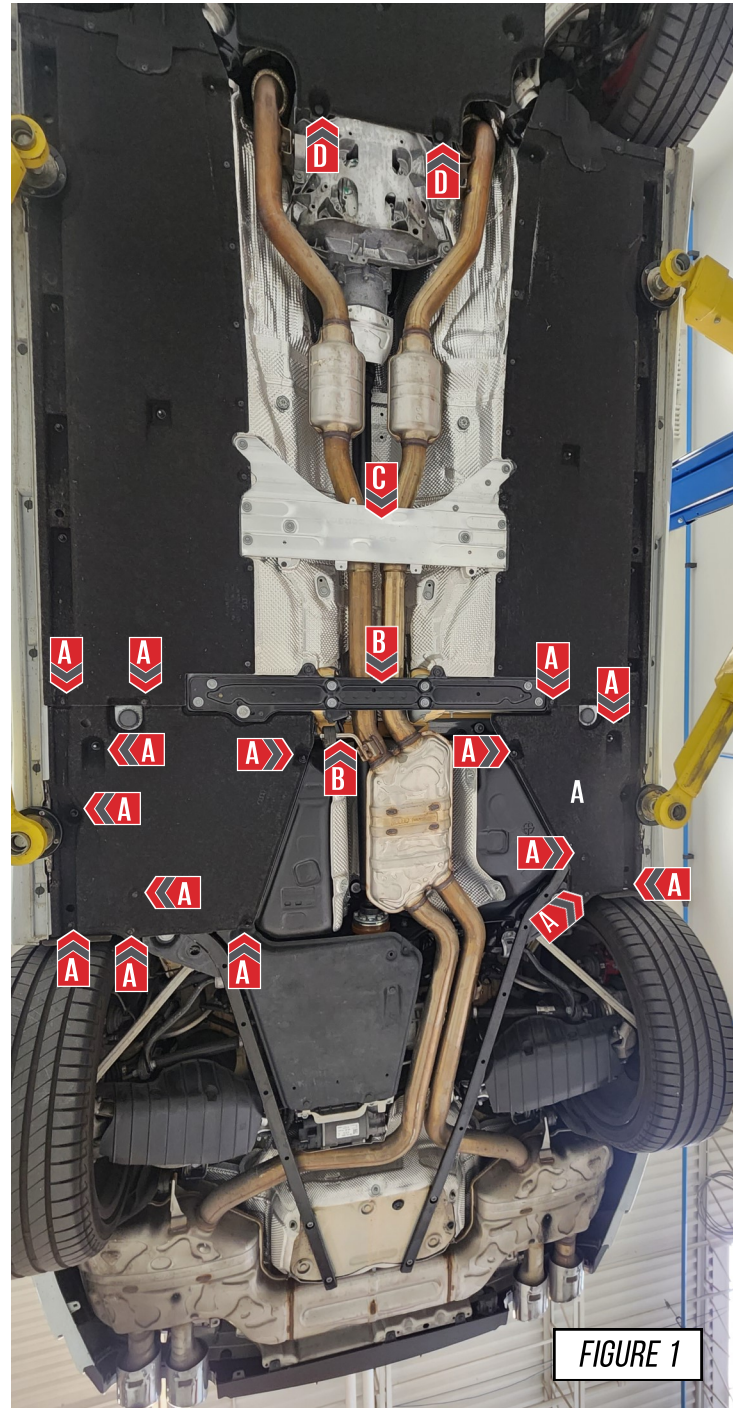

FIGURE 1
1. Remove the fasteners that hold in the covers shown at **(A)** in **Figure 1**. Then remove the covers.